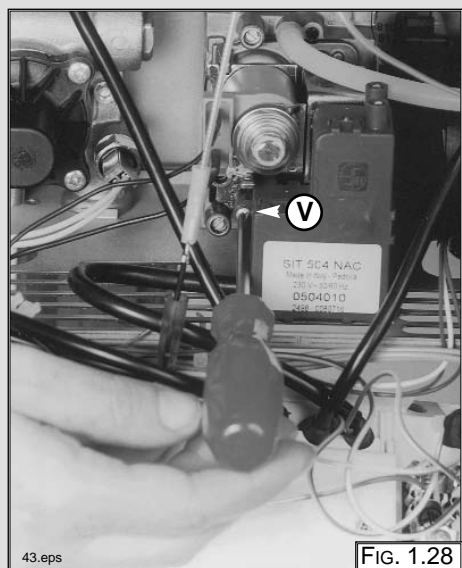

FIG. 1.28
2. Remove the screw "V" (FIG. 1.28);